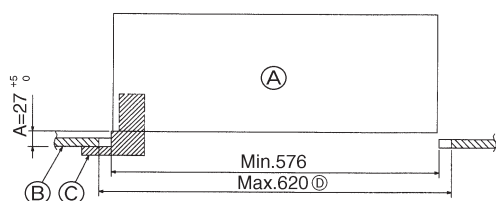

Fig. 5-2
①	Grille	1	650 × 650 (mm)
②	Screw with washer	4	M5 × 0.8 × 25 (mm)
③	Gauge	1
④	Fastener	2
⑤	Band	2
5.2. Preparing to attach the grille (Fig. 5-2)